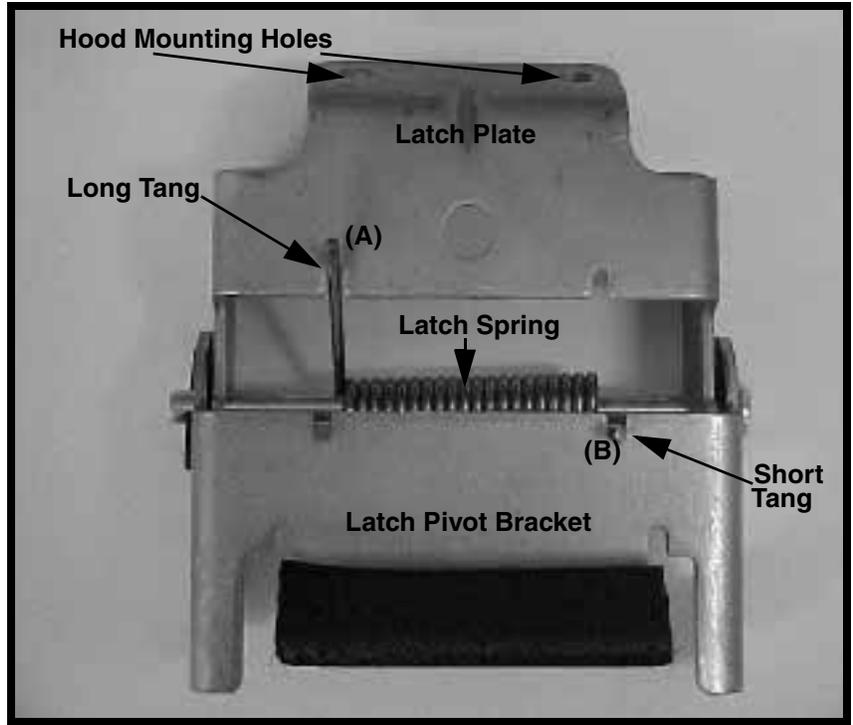
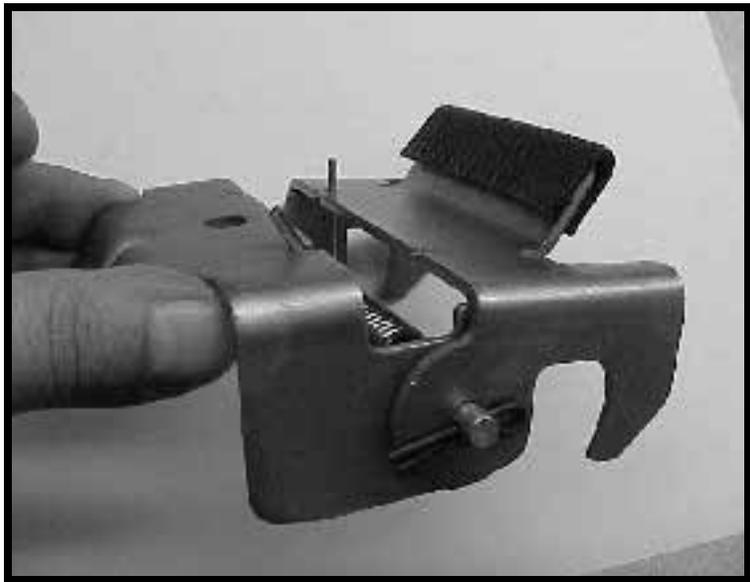

FIGURE 3
FIGURE 4
Reassemble using the new latch pivot bracket and all other existing parts retained from removal. Refer to Figure 3 for proper orientation of the latch spring. The long tang (A) fits into the notch of the latch plate, and the short tang (B) fits into the notch of the latch pivot bracket. Insert the rod through the latch pivot bracket then through the latch plate. Install the latch spring at this time onto the rod. Insert the short tang (B) of the latch spring into the notch on the latch pivot bracket. Make sure rod is at least 3/4 into the latch spring. Position the long tang (A) of the latch spring into the latch plate notch. Make sure the latch pivot bracket is in the correct position, on top of the latch plate as shown in Figure 4. Then push the rod all the way through to the other side of the latch plate. Install the hair pin. Make sure the hood closes and latches securely to the hood latch rod. **NOTE:** Alignment of hood and or hood latch rod can effect a secure latching of the hood.